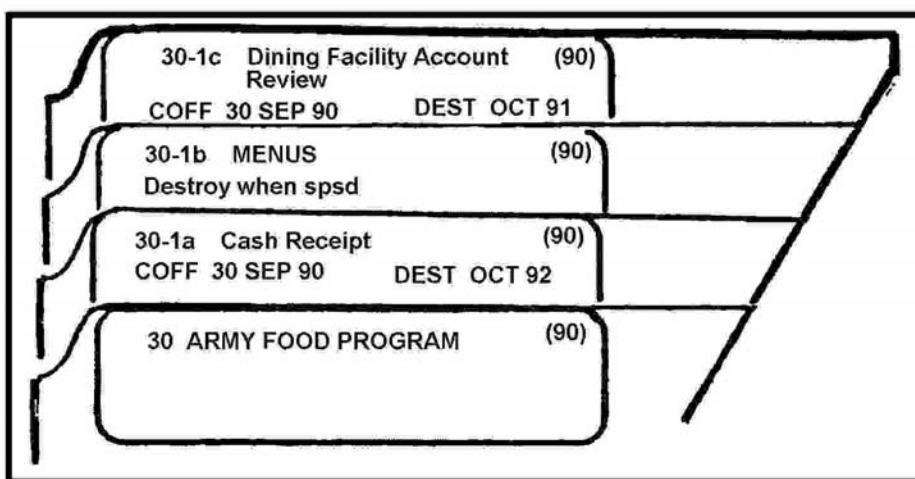

Figure 3-18. Sample Label Showing File Guides
2. Prepare file guides (see Figure 3-18).